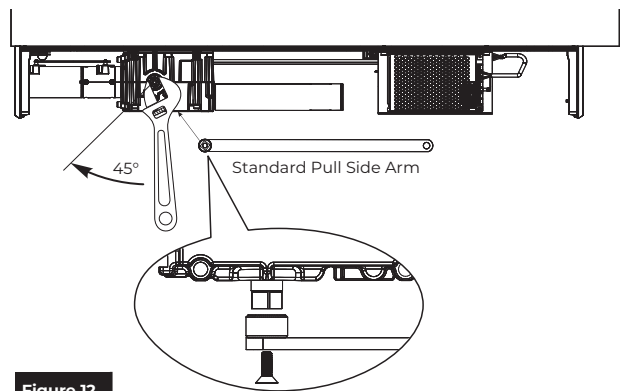

Figure 12
1. Using an adjustable wrench, rotate top pinion 45 degrees toward door hinge. You will feel resistance from spring. (Figure 12)
2. **While holding pinion at 45 degrees**, slide arm on bottom pinion at orientation shown and attach with 1/4-20 x 3/4" screw. (Figure 12)